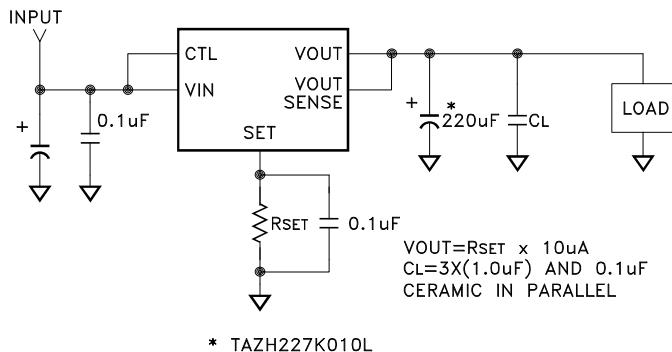

FIGURE 1
- ① Output is decoupled to ground using a 220μF tantalum low ESR capacitor in parallel with 3 pieces of 1.0μF and one 0.1μF ceramic capacitor unless otherwise specified. (See Figure 1)
- ② Guaranteed by design but not tested. Typical parameters are representative of actual device performance but are for reference only.
- ③ Industrial grade devices shall be tested to subgroup 1 unless otherwise specified.
- ④ Class H & K devices shall be 100% tested to subgroups 1,2 and 3.
- ⑤ Subgroup 1 T_A = T_C = +25°C